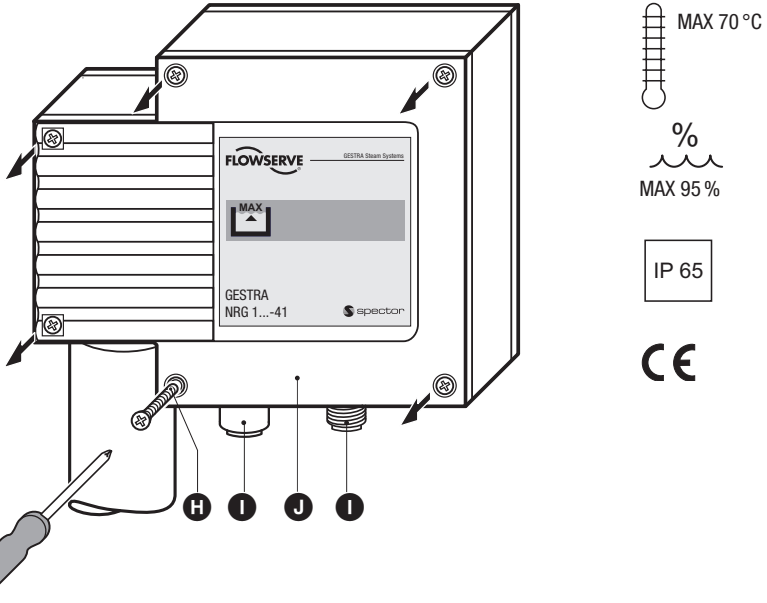

Fig. 8
1. Undo screws  and remove housing cover . **Fig. 8**